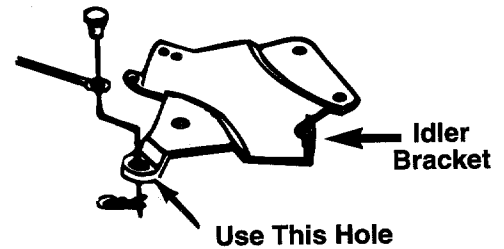

FIGURE 16.—Underneath Tractor
- Models 145V834H and 145W834P:** Secure the brake release cable to the tractor idler bracket with clevis pin and small hairpin clip, using the hole in the idler bracket as shown in figure 16.